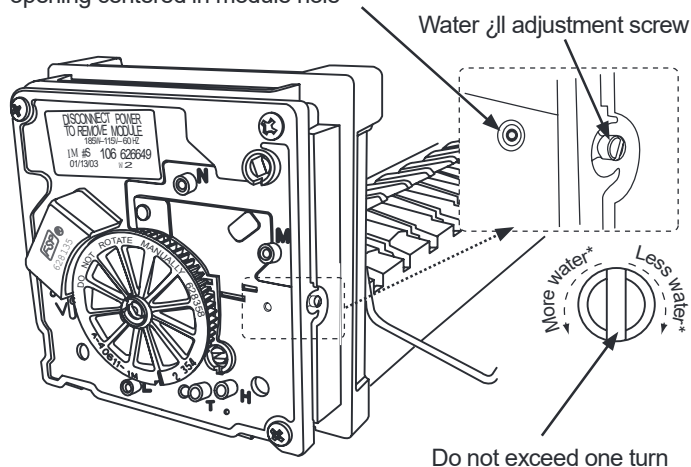

Figure 10-12.. —Water adjustment screw and contact alignment location.
5. Locate the contact opening shown in Figure 10-12.
Do not turn the water fill adjustment screw if the contact opening is centered in the module hole. See Figure 10-12.
6. Turn the adjustment screw clockwise or counterclockwise to align the center of the contact with the hole in the module. See Figure 10-12.